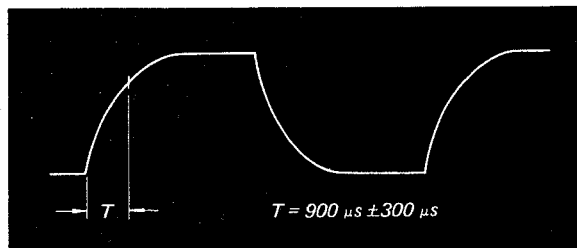

Fig. 7-6.
2. Confirm that the gate pulse interval is 900 μ sec \pm 300 μ sec. See Fig. 7-6.